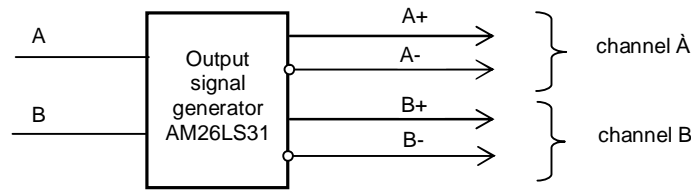

Figure C.5 – Output Channels of the ZBG-5-003-100 Hand Wheel
13.3.1.2 Hand wheel ZBG-5-003-100 generates rectangular output pulse signals (100 pulses per revolution). The hand wheel is supplied with a voltage of +5V. The hand wheel has two output channels **A** and **B**. Each channel generates differential signals **A+**, **A-**, **B+**, **B-**, as shown in Figure C.5.